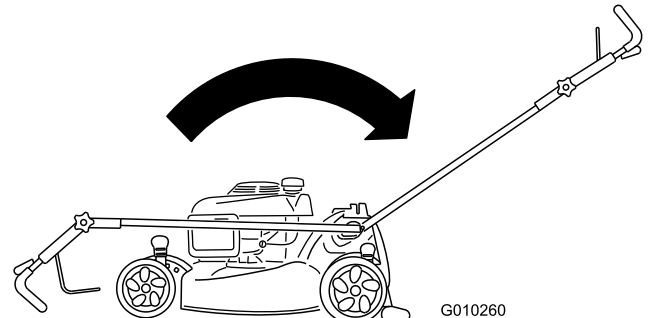

Figure 50
- Move the handle to the upright position (Figure 50).